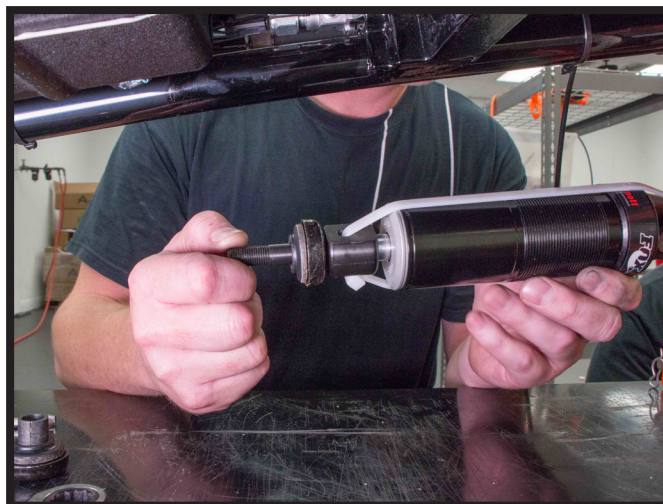

FIGURE 1
1. WARNING! DO NOT REMOVE ZIP TIE FROM THE DAMPER UNTIL STEP 10. (FIGURE 1)